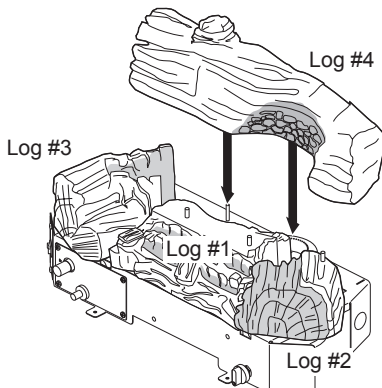

Figure 21 - Installing Log #4 (Model
4. Place log #4 onto two alignment screws to the rear of base (see Figure 21).